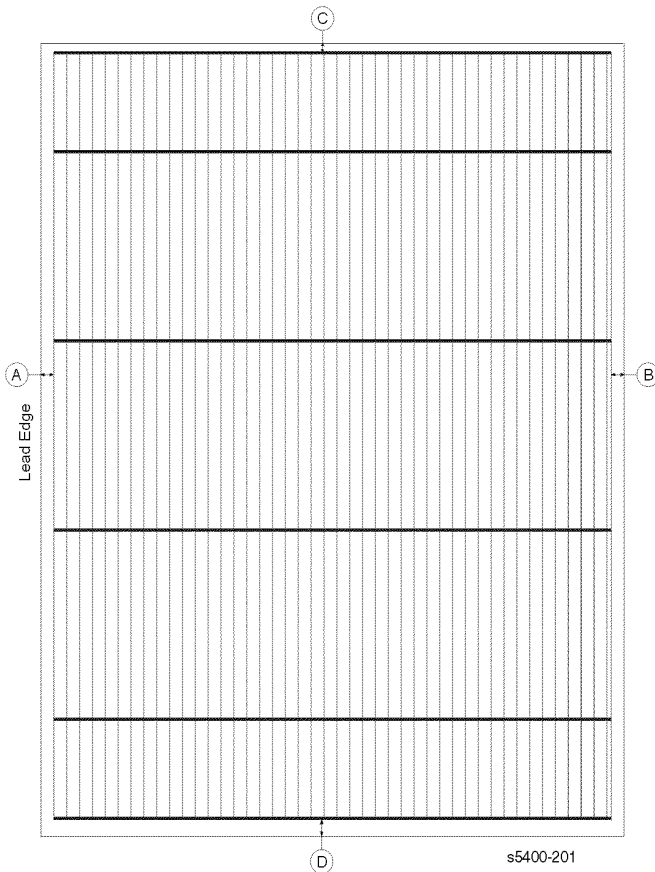

Figure 35 Registration Test Pattern
- Measure the distance from the top edge of the paper to the top edge of the image (C) and measure the distance from the bottom edge of the paper to the bottom edge of the image (D). These two measurements should be equal (see Figure 35).
- Measure the distance from the lead edge of the paper to the lead edge of the image (A) and measure the distance from the trail edge of the paper to the trail edge of the image (B). These two measurements should be equal (see Figure 35).